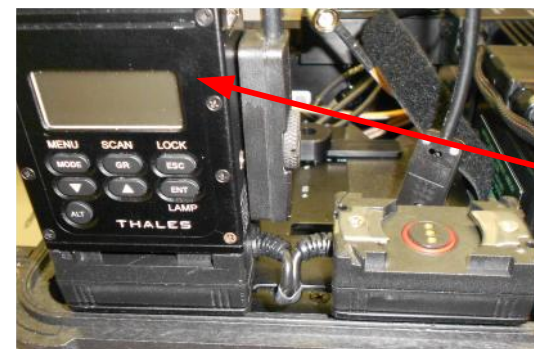

Figure 4
6. Install RAD1 first and connect one end of the retransmission cable (see Figure 4).